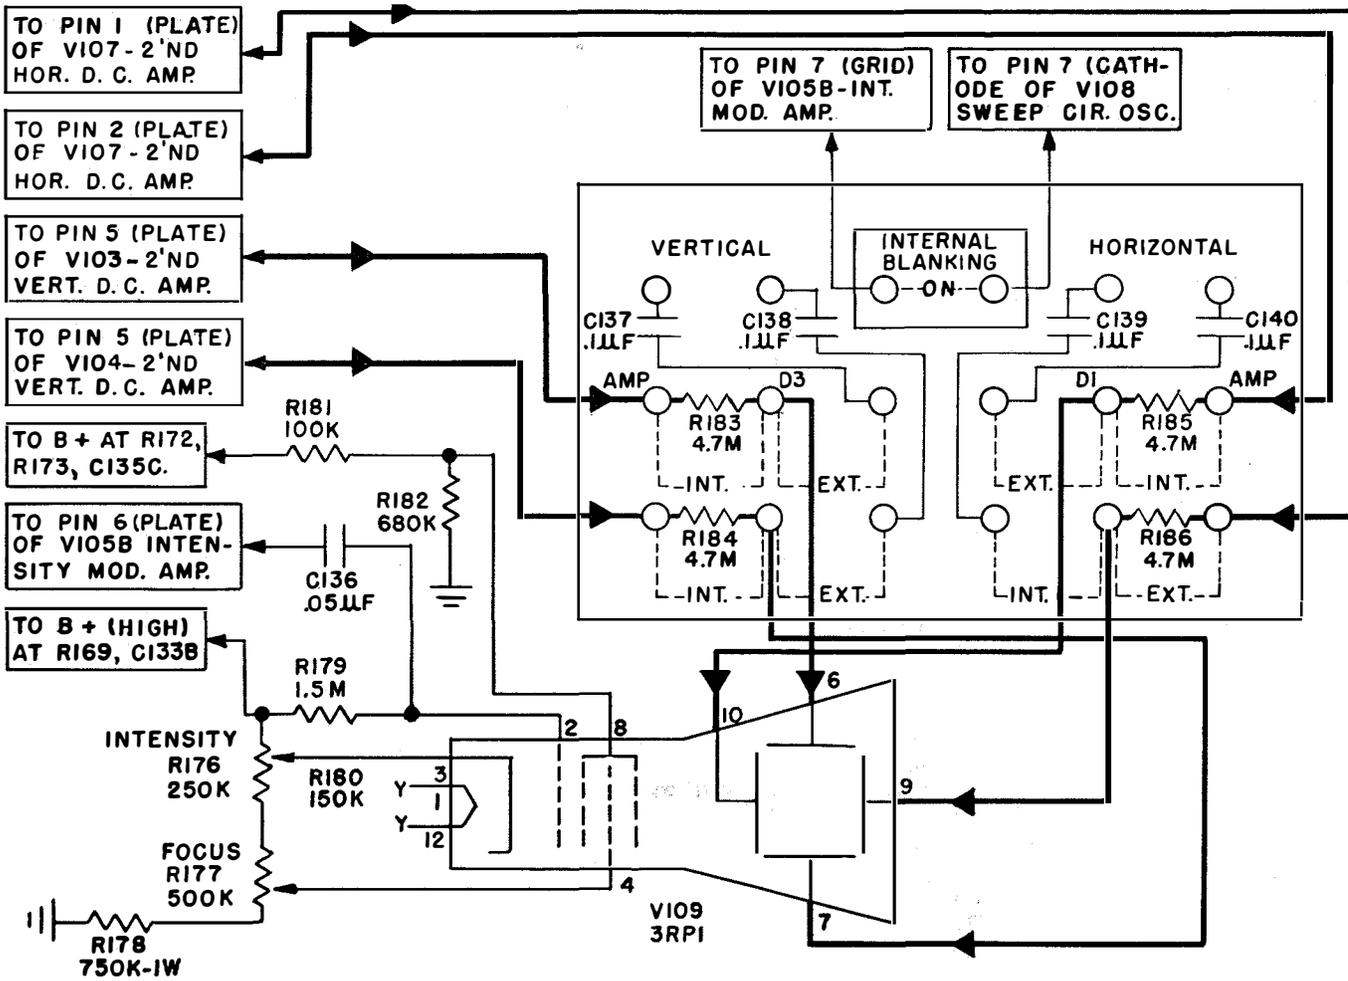

Figure 2-11. Cathode Ray Tube
f. CATHODE RAY TUBE. (See Figure 2-11)